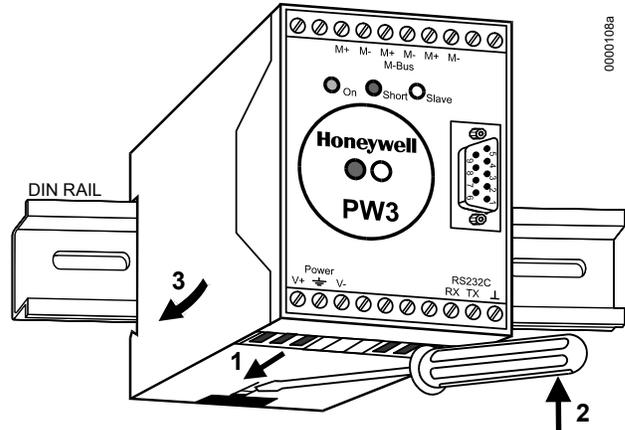

Fig. 35. Mounting of PW3
1. Install PW3 Meter-Bus Adapter on DIN rail. Insert a screwdriver into the slot in the DIN rail clamp on the underside of the PW3 and pry downward to loosen clamp until the unit snaps onto the rail. See Fig. 35.
Meter-Bus activity can also be monitored using the slave LED on the PW3 (see Fig. 35, Fig. 36).